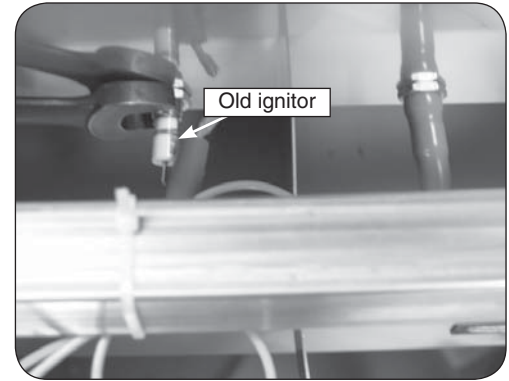
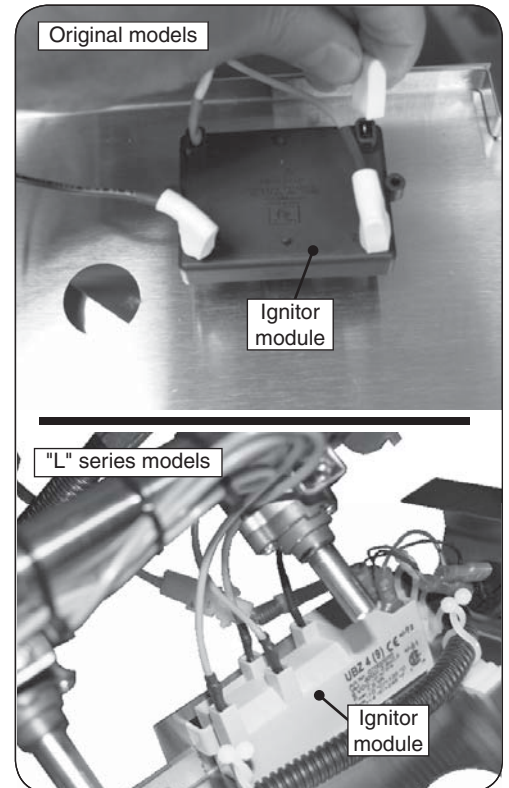

Fig. 2-1 Remove old ignitor electrode
Fig. 2-2 Remove old ignitor wire
6. Remove the existing ignitor box by first loosening the nut on the faceplate side of the fire wall with a wrench. Disconnect the wire connector from the electrode and pull it through the hole (see Fig. 2-1). Unplug the other end and discard the old wire (see Fig. 2-2).